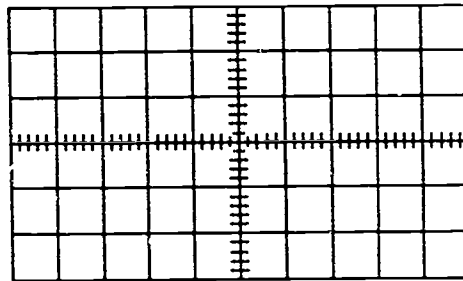
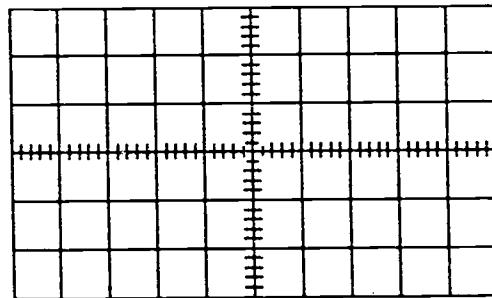

Figure M-8-3
Figure M-8-4
8. Connect an oscilloscope across the coil. Using the oscilloscope grids in Figure M-8-3, "Oscilloscope Grid-- $1/4$ Position" and Figure M-8-4, "Oscilloscope Grid-- $3/4$ Position," make sketches of the signal on the screen at the $1/4$ and $3/4$ positions of the core.